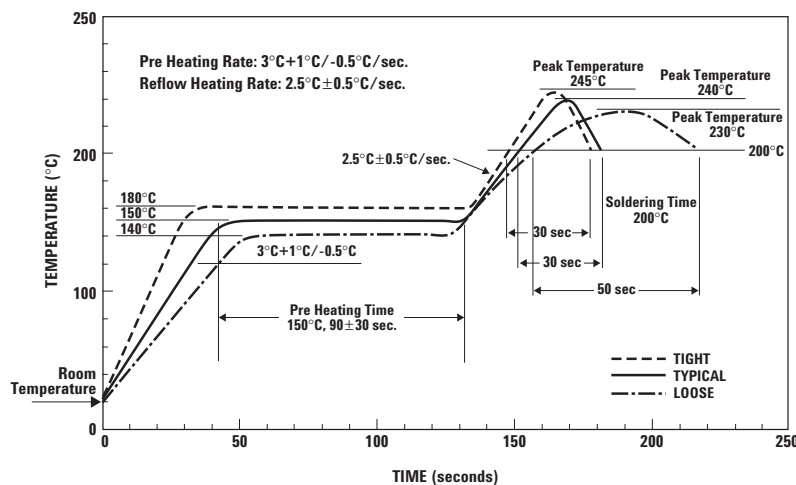

Figure 16. Temperature/Time Thermal Profile.
**Solder Reflow Process:** Only one soldering operation is recommended within the thermal profile shown in Figure 16. With infrared lamp heating, use precautions to avoid localized temperature rise in the resin. Also, the resin should not be immersed in the solder. To prevent chloride corrosion of the lead frame, halide fluxes should not be used.